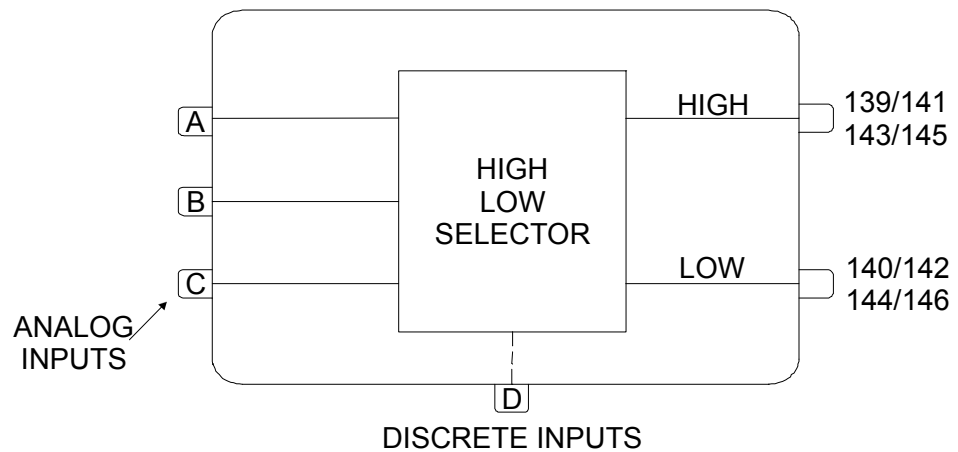

Fig 3A - Typical Block
Each block has one **Linking Parameter (L)** for each input. A block with three inputs has the **Linking Parameters LIA, LIB, and LIC** (Link Input A, B and C). If the HIGH-LOW selector block shown in Figure 3A has **LIA=2**, that means that the input **A** of that block is on.